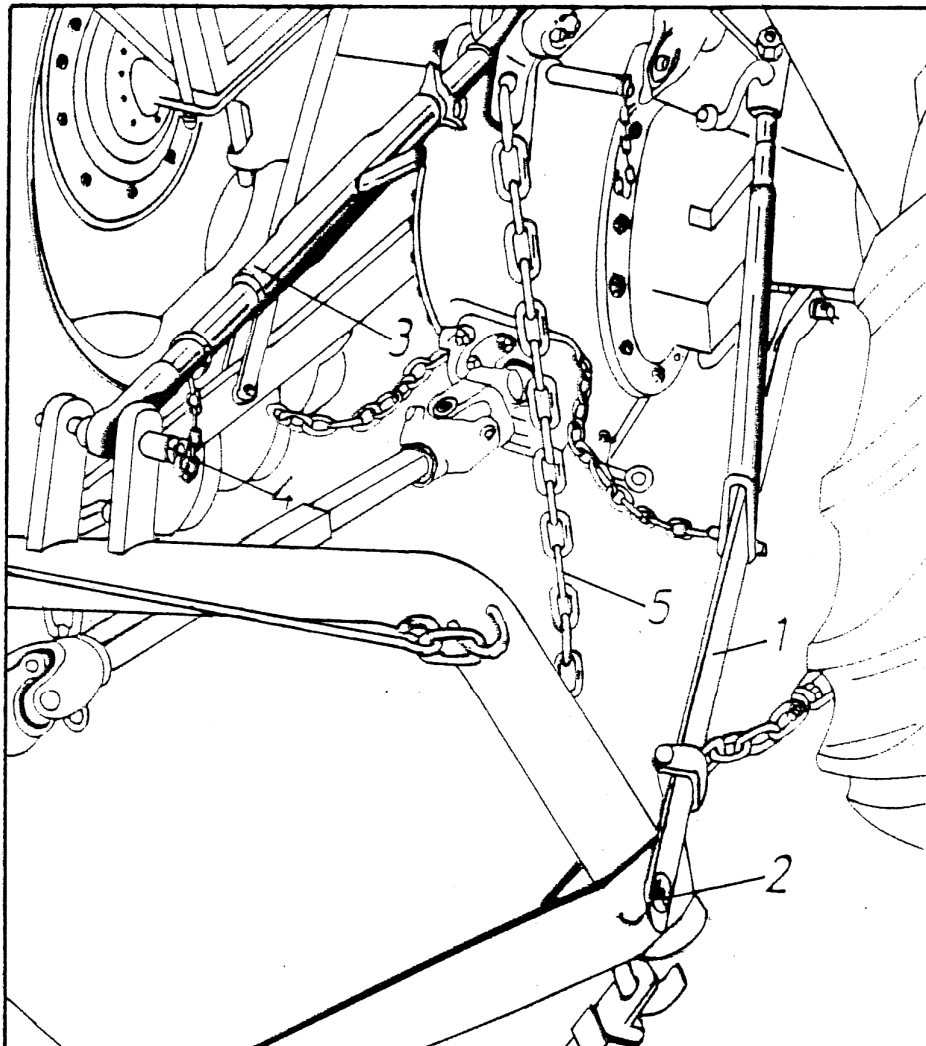

Figure 3
Move the tractor backwards, lower the lower tractor levers (figure 3, item 1) using the hydraulics at the height of the axis of the attachment shafts of the supporting frame and make the connection.
Secure the chainholder (figure 3, item 6) with a pin that binds the upper tractor lever with the eyelet on the tractor.
- Using hydraulics, slightly raise the mower, when hydraulics chain loosens unfasten it (figure 3, item 5).
- The whole mower is lowered by hydraulics by the time the stub firmly rests on the ground, and then the hydraulic chain is attached (figure 3, item 5). Set the chain length so that it is tight.